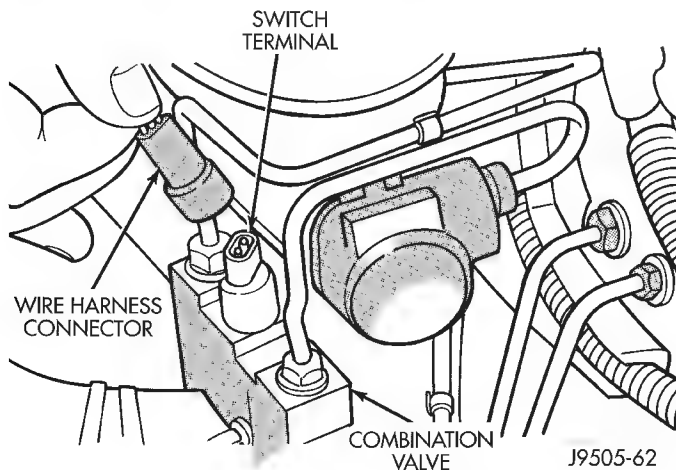

Fig. 9 Pressure Differential Switch Wire Connection
(5) Remove air cleaner housing from engine compartment.
(6) Disconnect wire from combination valve pressure differential switch (Fig. 9). Do not pull wire to disconnect. Unsnap lock tabs on wire connector.